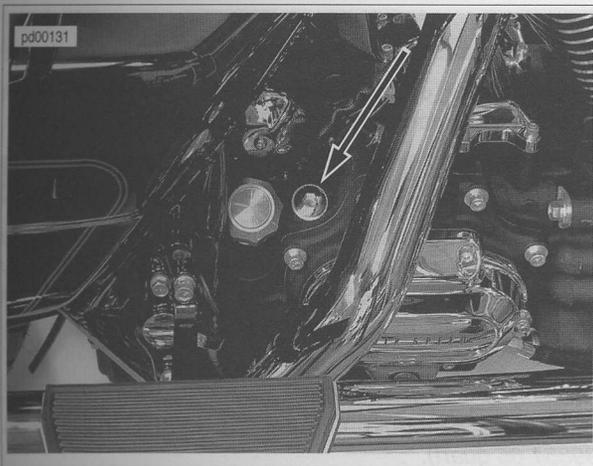

Figure 51. Transmission Filler Plug/Dipstick Location
1. See Figure 51. Remove the threaded check/filler plug.